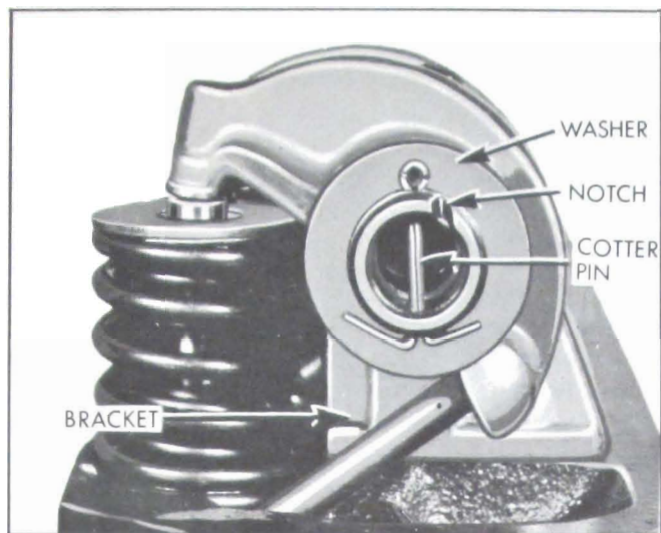

Figure 2-18—Rocker Arm Shaft End View
5. Install bolts with plain washers through brackets and shaft so that the notch on one end of shaft is upward in line with bolt heads. This places the oil holes on lower side of shaft in proper relationship to rocker arms. See Figure 2-18.
(4) Install locking plates with exhaust manifold bolts, tighten bolts only to 10-15 ft. lbs. torque, then bend one tab of plate against a flat on each bolt head.
(5) When rocker arm and shaft assembly is installed, make certain that the notch in one end of shaft is upward in line with bracket bolt heads. See Figure 2-18.
(6) Install intake manifold gaskets so pointed end of each gasket is "IN" toward center of engine.
(7) After installation is completed and engine has been warmed up to operating temperature, recheck cylinder head bolts for 65-75 ft. lbs. torque.